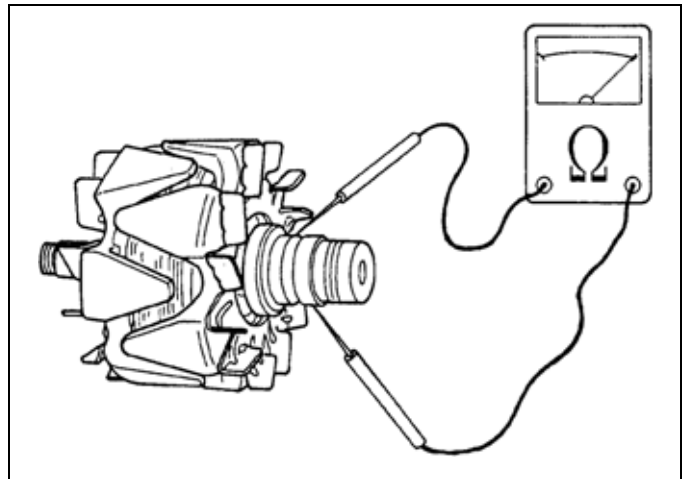

Fig. 5-16
- b. Check for continuity between both the slip rings, page 5-7, Fig. 5-16. If there is no continuity, the field coil is defective. Replace the rotor assembly.